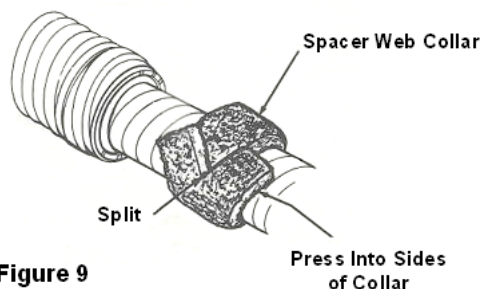

Figure 9
3. Split the overlapping 1/4 layer of Spacer Web and press into sides of the collar. (Figure 9)